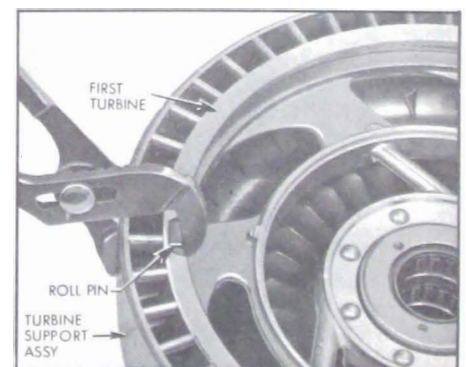

Figure 5-68—Positioning Turbine Roll Pins
16. Use a pair of channel lock or other suitable pliers to force roll pins into engagement with first turbine support roll pin holes. Roll pins should not extend outside support more than 1/32". See Figure 5-68.